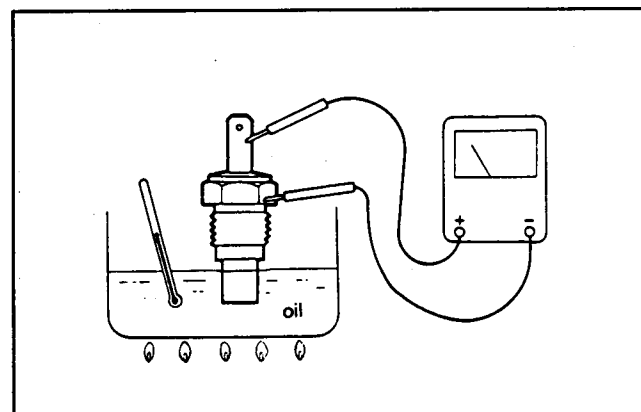

Figure 16
2. Put the switch in a container of oil with a thermometer and heat the oil (Fig. 16).